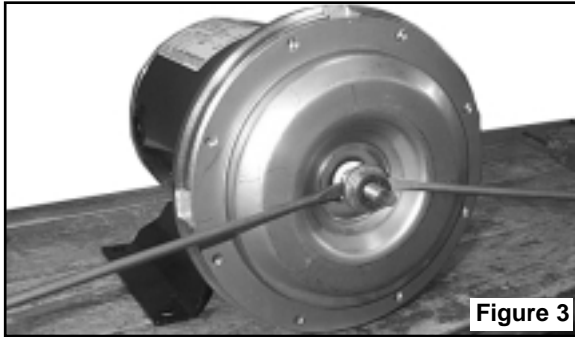

Figure 3
9. Pry off rotating member of mechanical seal from motor shaft by using (2) screwdrivers. Be careful not to damage the pump cover. See Figure 3.